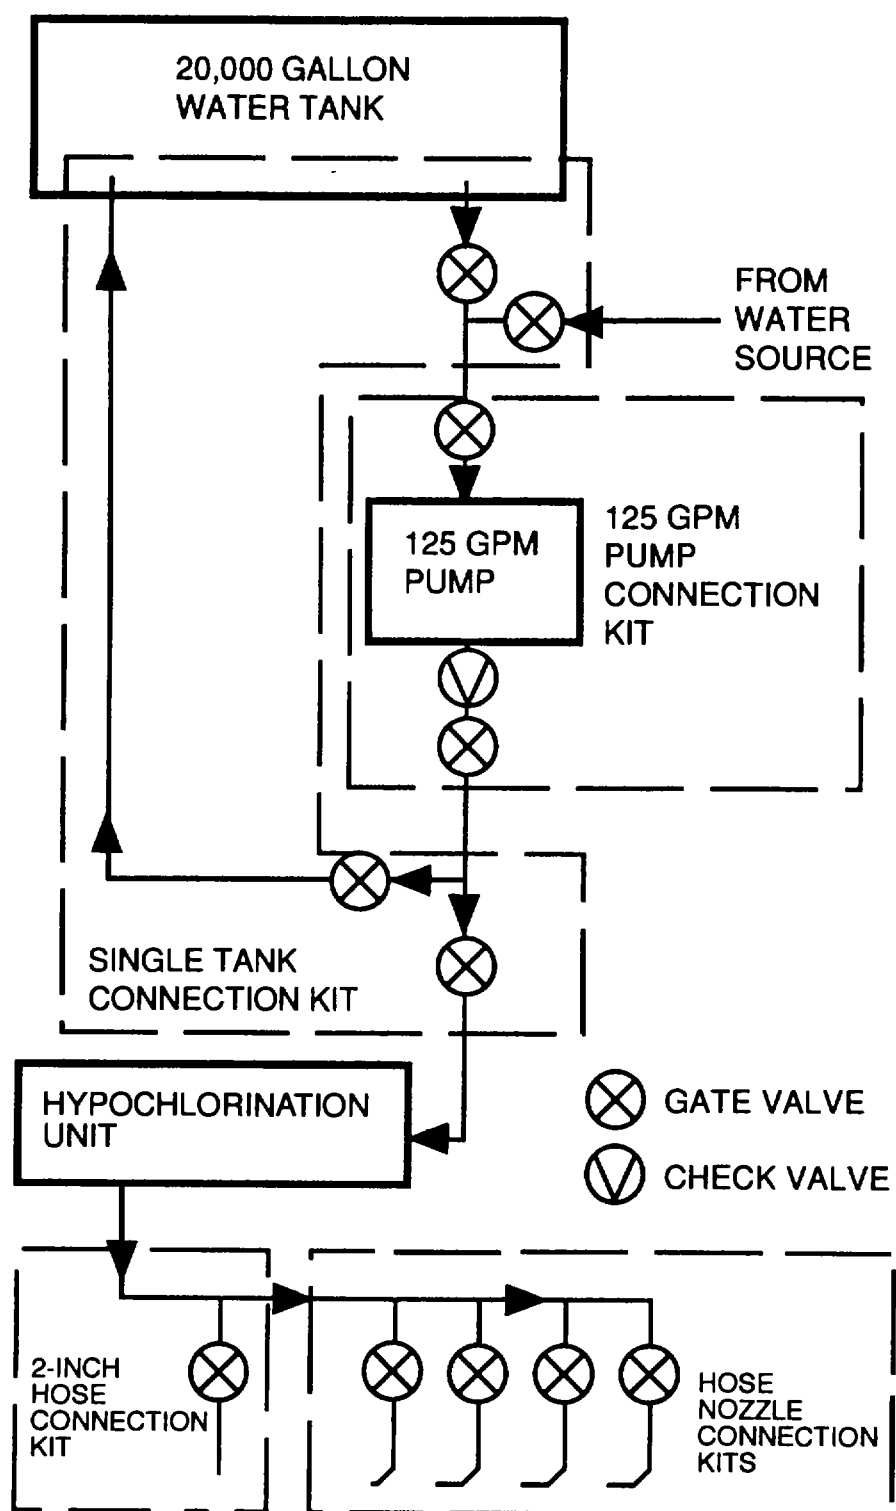

Figure 1-2. Flow Diagram
1.12.1 General. The 20K water distribution system (Figure 1-2) described in this manual is set up for maximum storage and distribution. Your operating needs will determine how many of the system components must be connected and in what configuration. Additional components are available in the accessory kit to support varying site and operating needs. Water is supplied to the 20K system by the Tactical Water Distribution System pipeline or other water source.